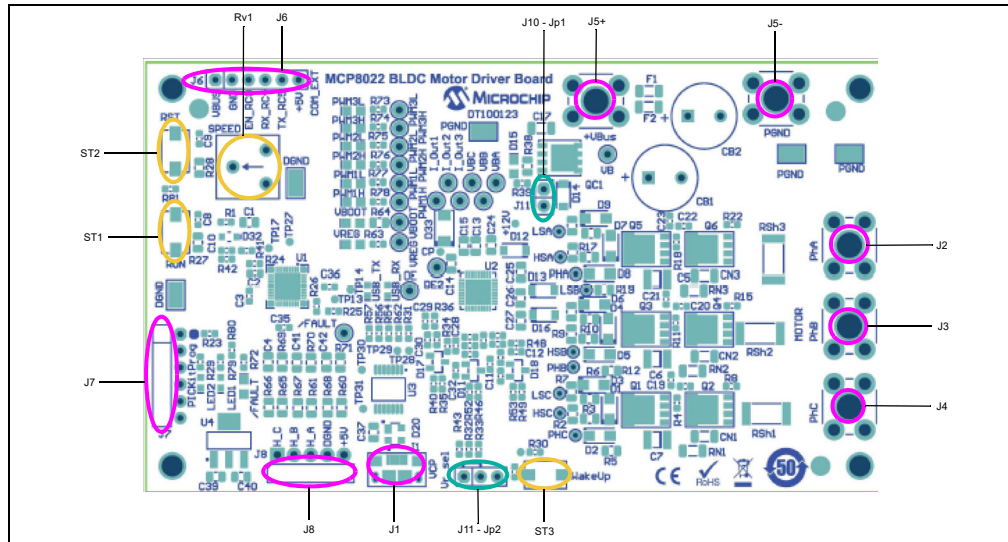

FIGURE 2-4: BMCP8022 BLDC Motor Driver Board Jumper/Connector/User Interfaces.
The jumpers are described in Table 2-1. The jumper's positioning can be seen in Figure 2-4, (circled in green).
The connectors are described in Table 2-2. The jumpers positioning can be seen in Figure 2-4 (circled in pink).
The push buttons and the potentiometer are described in Table 2-4. The positioning can be seen in Figure 2-4, (circled in orange).
2.3.2.4 POWERING THE MCP8022 BLDC MOTOR DRIVER DEVELOPMENT BOARD (REFERENCE FIGURE 2-4)